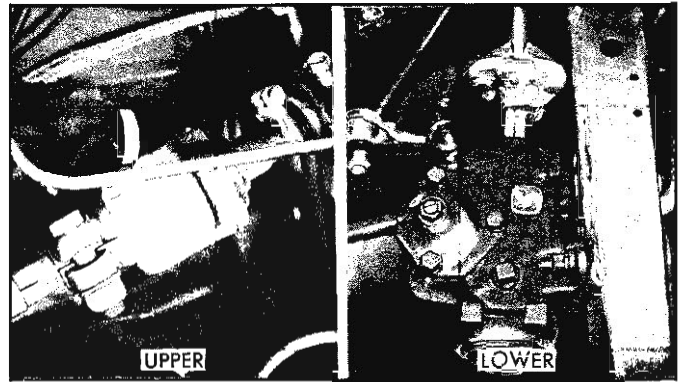

Fig. 4—Steering Shaft Alignment Points
5. Attach intermediate shaft, if removed, to upper coupling, aligning the marks as shown in Figure 4.
- Install new intermediate steering shaft and lower coupling assembly by connecting lower coupling to wormshaft with the cast pointer on the coupling aligned with the mark on the wormshaft (fig. 4). Secure coupling by installing special clamp bolt. Tighten clamp bolt to 20-25 ft. lbs. using a 7/16" - 12 point socket.
- Complete installation by engaging upper end of intermediate shaft to the upper coupling. The split in the upper coupling clamp must be aligned to the mark on the upper end of the intermediate shaft to maintain steering wheel centering with steering gear hi-point. See Figure 4. Secure attachment by tightening the upper coupling clamp bolt, nut and washer to 20-25 ft. lbs. If spring stop clamp was loosened, grasp clamp and push up toward steering wheel, compressing spring until approximately .020" space remains between coils; tighten clamp bolt.